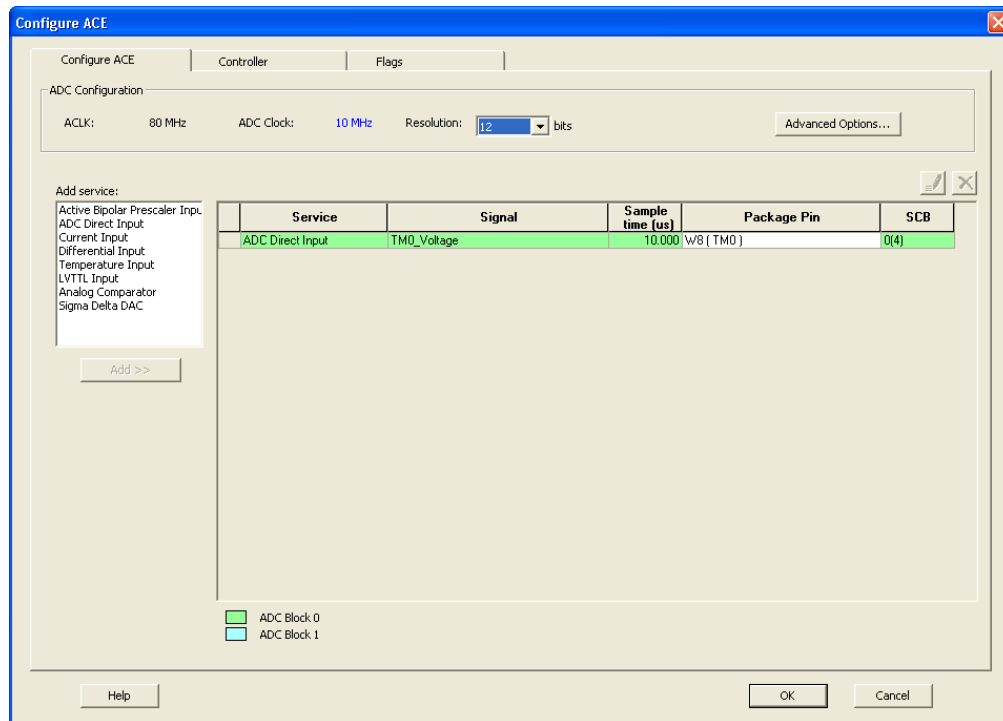

Figure 9 · The Configure ACE Tab
5. The **Configure ACE** tab is displayed as shown in Figure 9 . .